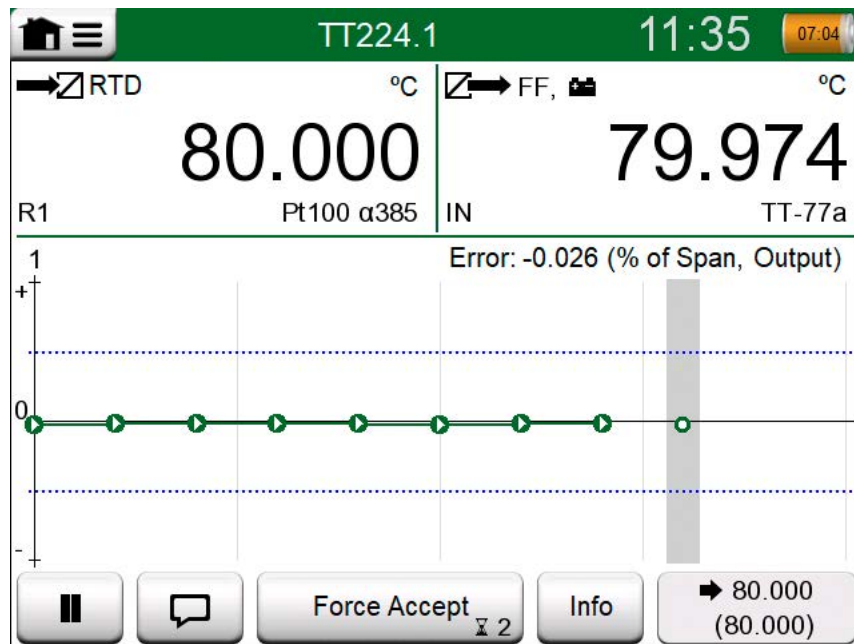

Figure 84: Calibration with Automatic Acceptance in use
3. When signal stability is reached, a timer counts down as set in **Point Delay** and then the readings are saved only if the signal stability is still valid. See hourglass in Figure 84: Calibration with Automatic Acceptance in use. If a signal becomes unstable, MC6-T returns to phase 2.